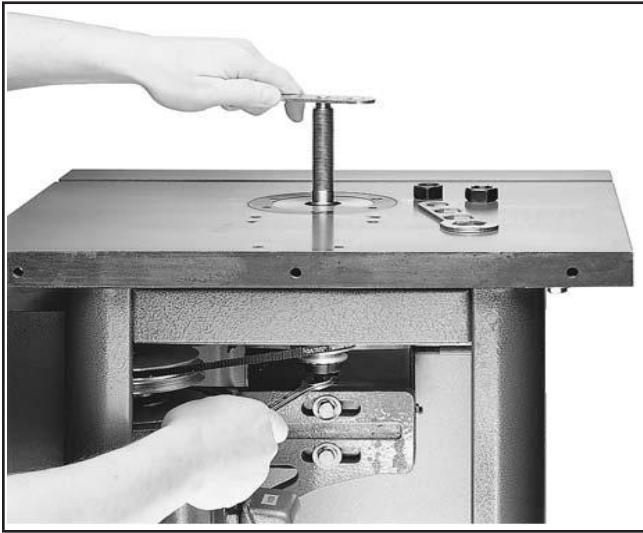

Figure 6. Tighten/Loose spindle
- Place the spindle wrench on top of the spindle, so it fits over the head of the spindle. Push the spindle lock pin to hold spindle in place. **See Figure 6.**